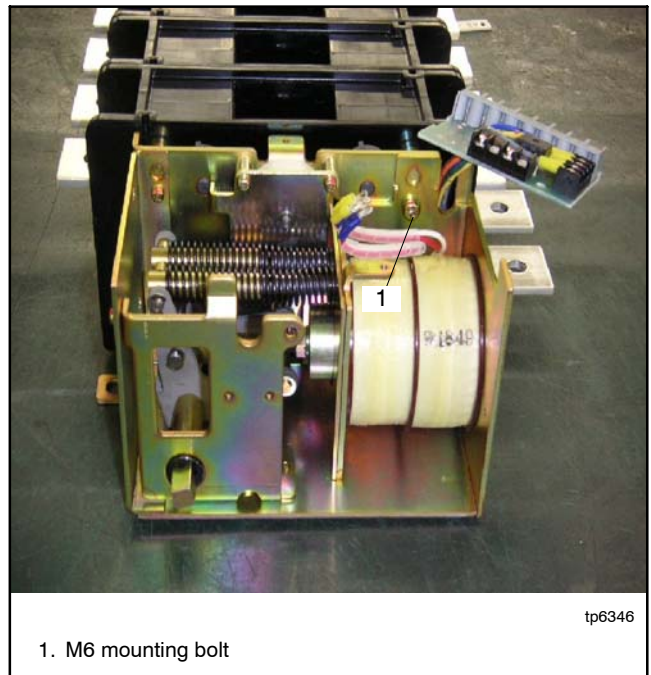

Figure 7-28 Coil frame mounting bolt
2. Remove one M6 bolt. See Figure 7-28.